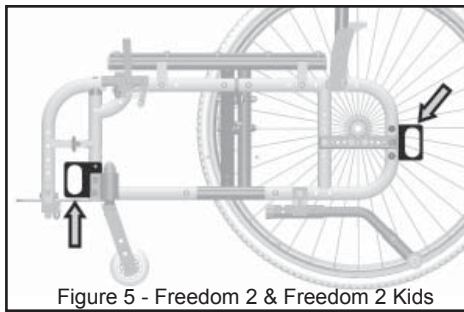

Figure 5 - Freedom 2 & Freedom 2 Kids
- Freedom 2 Figure 5
- Freedom 2 Kids Figure 5